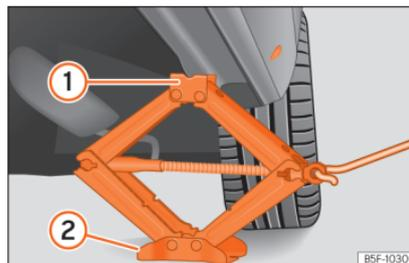

Fig. 38 Cross member: positioning the jack on the vehicle.
- Turn the jack crank handle, located below the strut support point, to raise it until the tab ① »» Fig. 38 is below the housing provided.
- Align the jack so that tab ① “grips” onto the housing provided on the strut and the mobile base ② is resting on the ground. The base plate ② should fall vertically with respect to the support point ①.